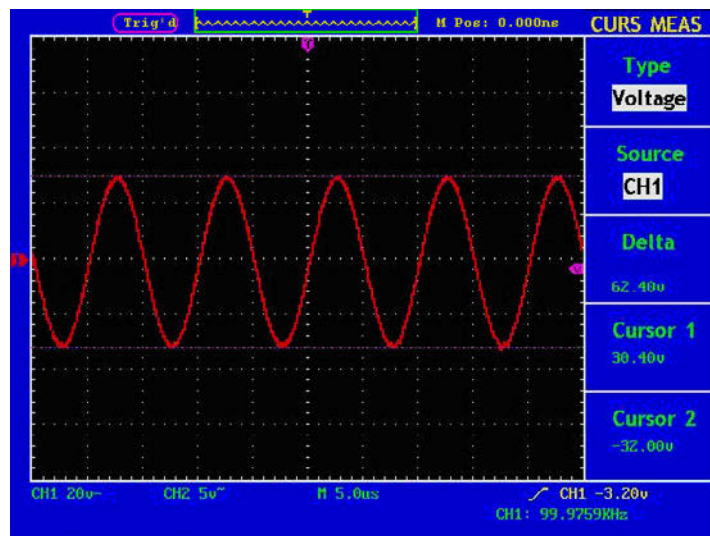

Figure 66. Waveform of Voltage Cursor Measurement.
- 3 Press **F2** to select **CH1** as the **Source**. The results are shown on the screen. (see Fig. 66).